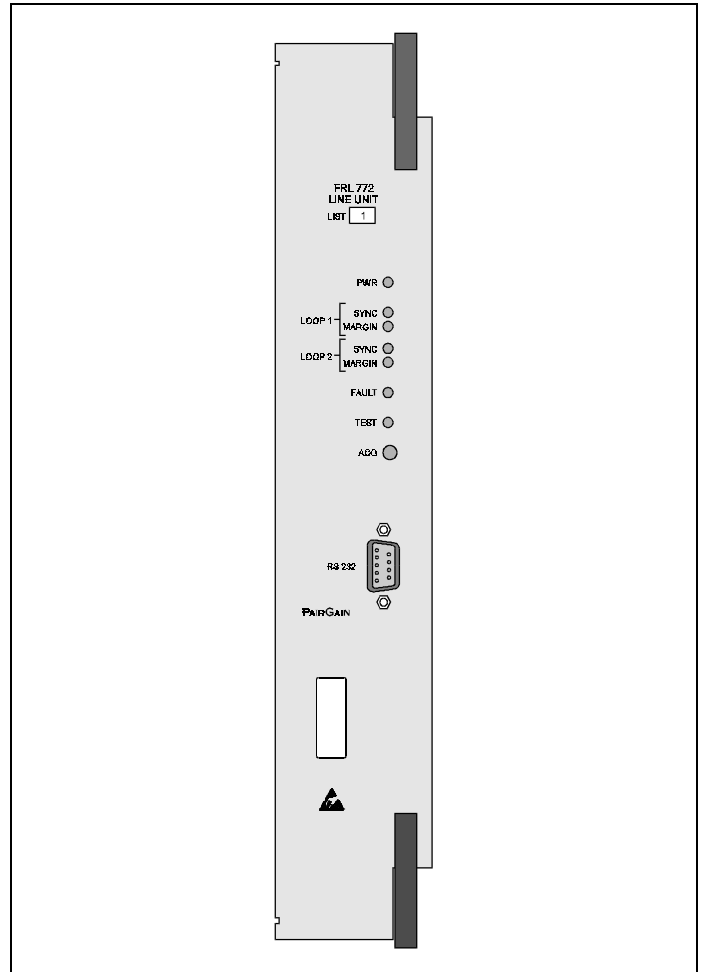

Figure 1. FRL-772 RT Line Unit, List 1, Front Panel. The PairGain FRL-772 is the remote end of a PG-Flex subscriber carrier system.
7.01 The front panel of the FRL-772 contains the following switch, indicators, and connector (see Figure 1):